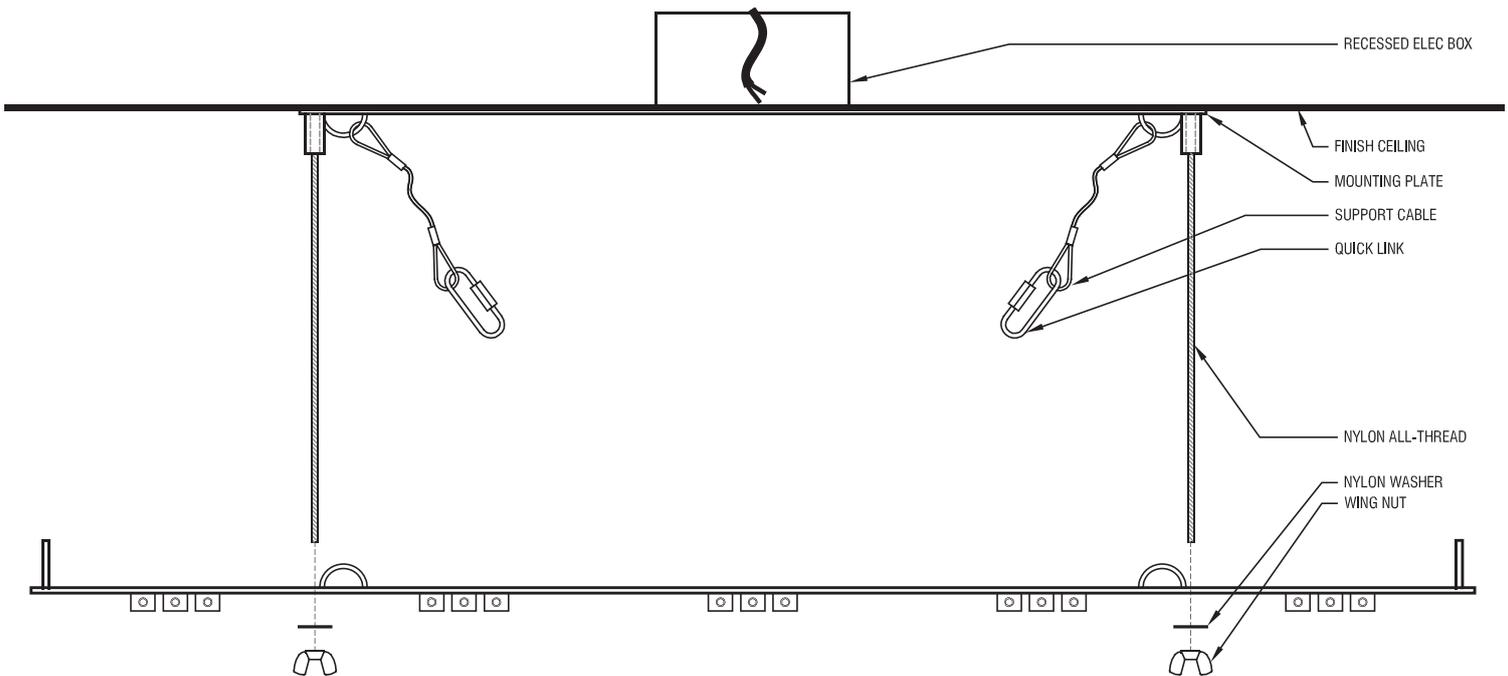

Figure 3. Install nylon all-thread rods into mounting plate and slide canopy up over rods
- 5 Fully thread each of the provided all-thread rods into each of the two threaded stand-offs on the mounting plate (Figure 3). Slide the canopy up and over the all-thread rods such that each rod passes through the appropriate hole in the canopy. One at a time, slide a nylon washer up over each all thread and thread on a wing nut so that the canopy can rest of the four washers. Level the canopy.